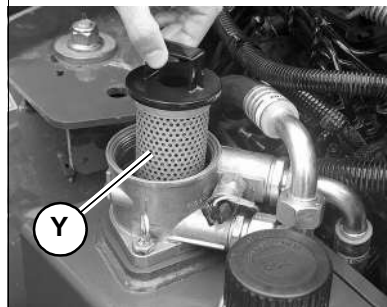

Figure 92 – Hydraulic Oil Service
7. Remove the old filter element (Y, Fig. 92). Cover the filter opening on the filter housing with a clean rag while adding oil.
9. Remove the rag from the filter opening and clean the surface of the filter housing where the element seal contacts the housing. Put clean oil on the rubber gasket of the new filter element (Y, Fig. 92).
10. Install the new filter element (Y, Fig. 92).